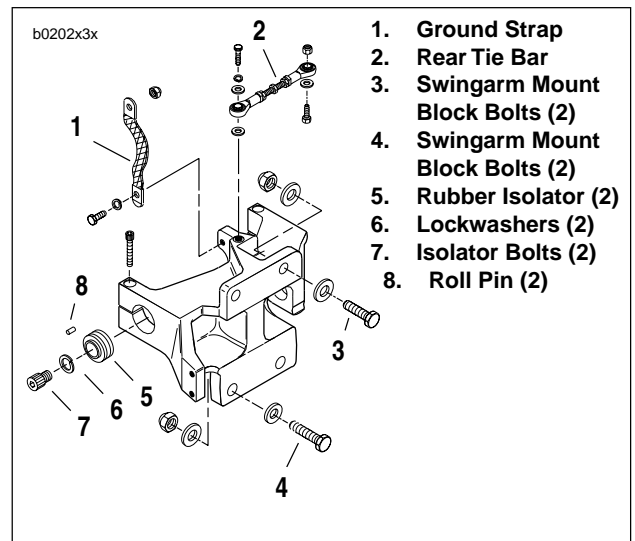
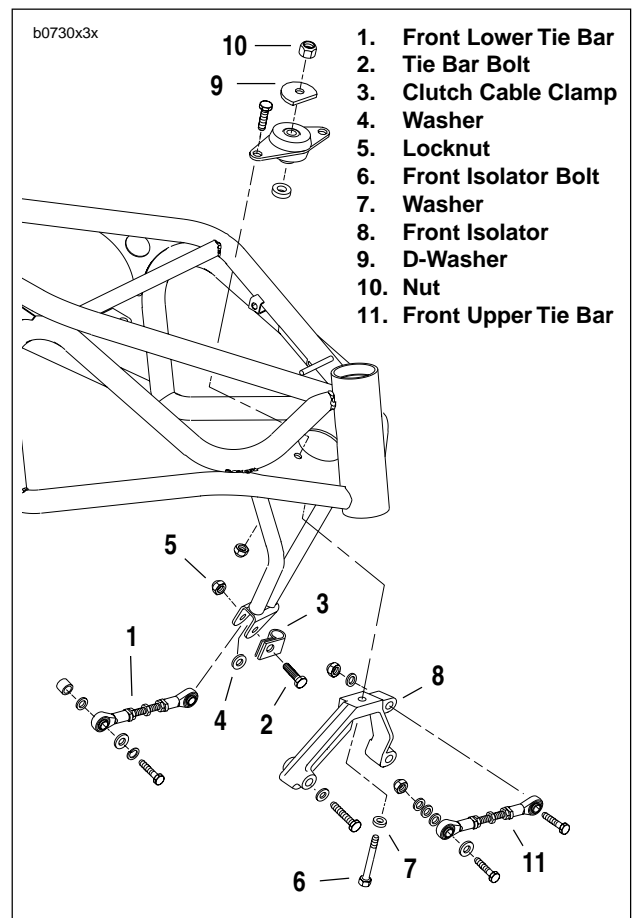

Figure 3-3. Rear Tie Bar Assembly
Figure 3-4. Front Tie Bar Assembly
15. See Figure 3-3. Remove engine ground strap (1) from swingarm mount block.
- b. See Figure 3-4. Detach front lower tie bar (1) and clutch cable clamp (3). Remove tie bar bolt (2), clutch cable clamp (3), washer (4) and locknut (5).
- c. Remove washer and nut to detach front upper tie bar (11) from isolator (8).
17. Detach front isolator (8). Remove front isolator bolt (6), nut (10), D-washer (9) and washer (7).
18. See Figure 3-3. Remove isolator bolt (7) and lockwasher (6) on each side.
19. Slowly raise floor hoist until rubber isolators (5) can be removed. Frame will rise while engine remains secured to lift by crating strap.
2. See Figure 3-3. If removed, attach swingarm mount block to engine. Install upper bolts (3), washers and lock-nuts finger tight. Install lower bolts (4), washers and lock-nuts finger tight. Tighten upper bolts to 41-45 ft-lbs (56-61 Nm) and lower bolts to 68-75 ft-lbs (92-102 Nm).
6. See Figure 3-4. Attach front isolator (8). Install front isolator mount with bolt (6), washers (7), D-washer (9) and locknut (10). Flat on D-washer faces steering neck. Tighten bolt finger tight.
9. See Figure 3-4. Place clutch cable clamp (3) on front tie bar bolt (2). Clamp should hold cable on primary cover side of motor. Insert bolt from front through frame and install washer (4). Continue through tie bar (1) and frame. Install locknut (5) and tighten to 30-33 ft-lbs (41-45 Nm).
10. Attach front upper tie bar (11). Insert bolt through tie bar front isolator, and frame. Secure with nut and washer. Tighten to 30-33 ft-lbs (41-45 Nm).
11. See Figure 3-3. Tighten the two rear isolator TORX bolts (7) to 63-70 ft-lbs (85-95 Nm). Make sure isolators do not twist during tightening. See 2.20 REAR ISOLATORS.
12. See Figure 3-4. Tighten front isolator bolt (6) to 100-110 ft-lbs (136-149 Nm).